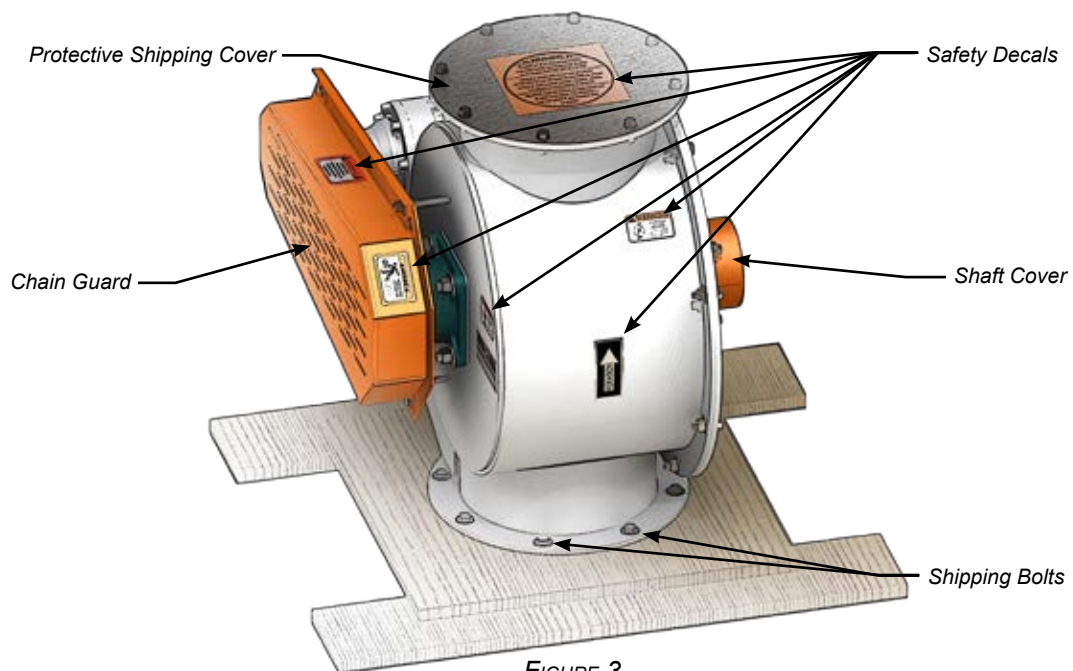

FIGURE 3
- Remove the shaft cover located on the non-drive end of the shaft and the chain guard (Figure 3).
- Remove shipping bolts securing airlock to the shipping pallet (Figure 3).
- Locate and read all safety decals (Figure 3).
- Remove the protective shipping cover (Figure 3).